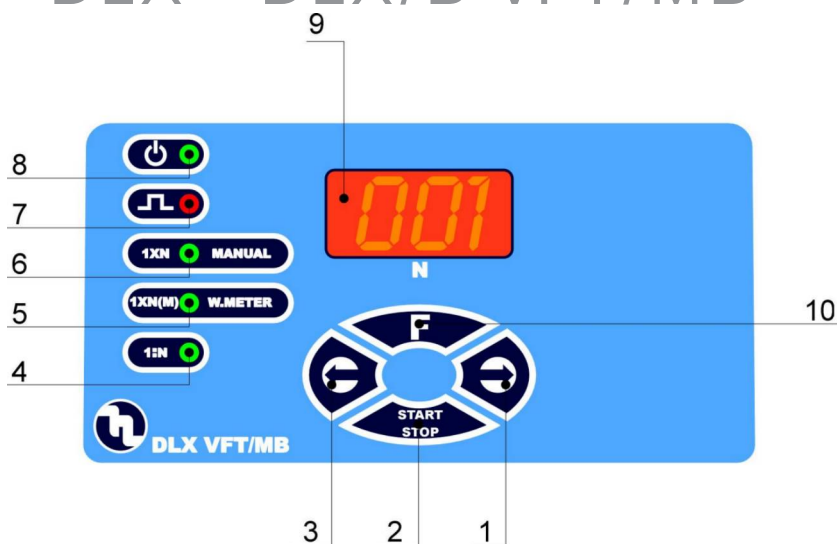

Fig. 12
7.1 - PUMP CONTROLS (Fig. 12)
- 5 - "green" LED 1XN (M) function/water meter